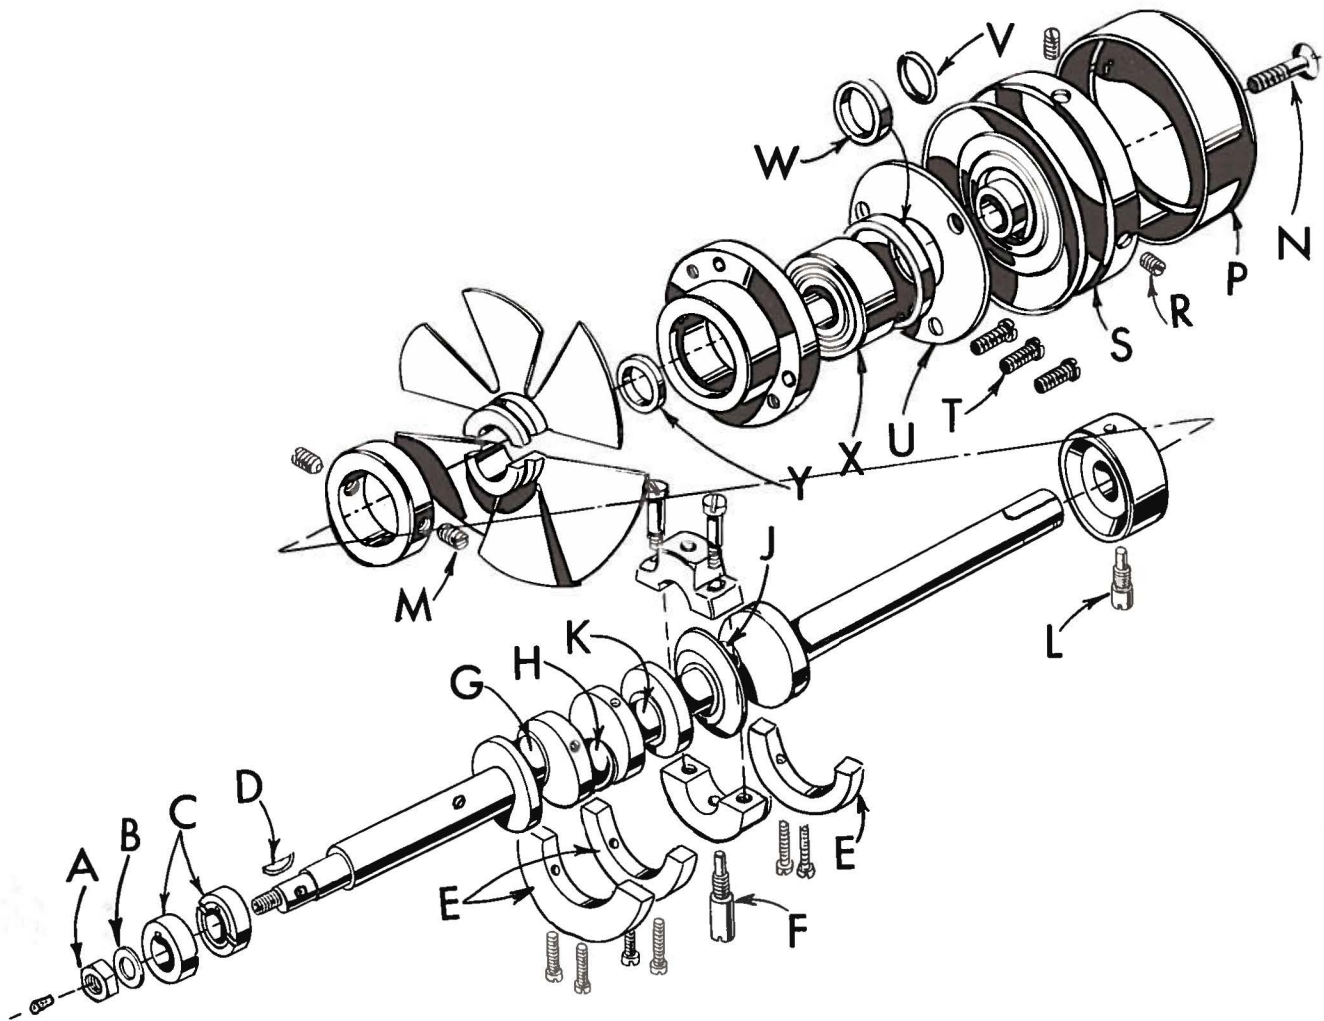
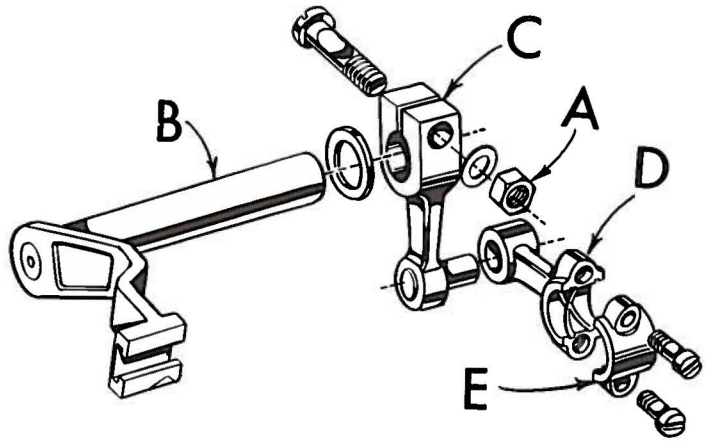

Fig. 20
Fig. 21
3. Remove feed eccentric nut (A, Fig. 20) and washer (B), and, with the aid of the eccentric extractor, slip off the eccentrics (C).
4. Remove key (D).
5. Remove three counterweights (E). Identify these counterweights so that they will be re-assembled in the proper places.
6. Remove screw (F) which holds crankshaft split bearing. This screw is reached through bottom of bed casting.
8. Loosen clamp nut (A, Fig. 21) which holds upper knife driving arm (B). Access to clamp nut is through top cover. Draw driving arm to the left until upper knife driving lever (C) and connecting rod (D) drop, allowing removal of bearing cap (E). This is at bearing point (K, Fig. 20) on crankshaft. Observe same precautions when re-assembling cap as described in 7 above.
9. Remove screw (L, Fig. 20) which holds inner right crankshaft bearing. This screw is reached through bottom of bed casting.
10. Loosen two screws (M) in fan collar; remove both halves of cooling fan.
11. Remove screw (N); take off pulley cap (P).
12. Loosen two screws (R); remove pulley (S).
13. Remove three screws (T); take off bearing retaining plate (U); also, spacer collars (V) and (W) may be removed at this time.
15. If necessary to replace ball bearing (X), it should be pressed off shaft on an arbor press. In replacing bearing it must be pressed on carefully until it seats against ground thrust washer (Y).